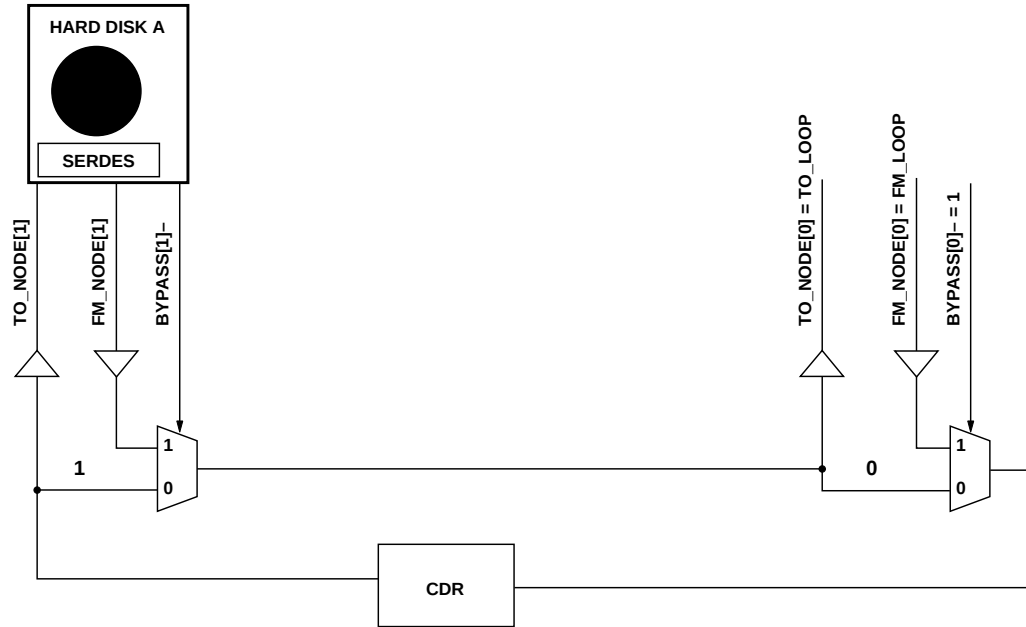
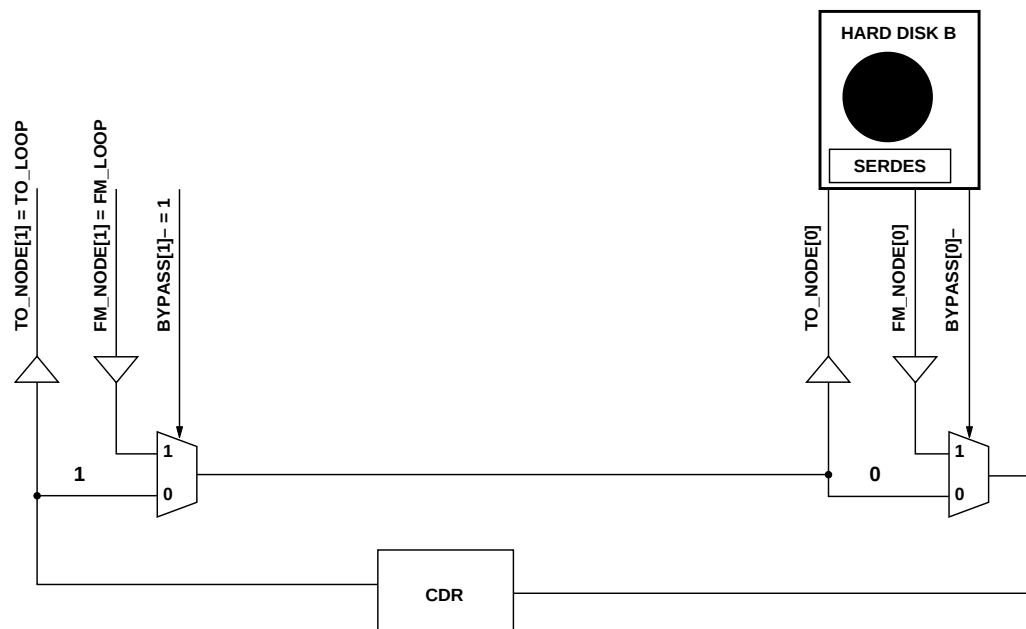

Figure 4: Connection Diagram. Case of CDR Before Entering the Hard Disk.
Figure 5: Connection Diagram. Case of CDR After Exiting the Hard Disk.
A Port Bypass Circuit is a 2:1 Multiplexer array with two modes of operation: DISK IN LOOP and DISK BYPASSED. In DISK IN LOOP mode, the loop goes into and out of the disk drive. Data go from the HDMP-0421's TO_NODE[n] $\pm$ differential output pins to the Disk Drive Transceiver IC (for example, an HDMP-1536A) Rx $\pm$ differential input pins. Data from the Disk Drive Transceiver IC Tx $\pm$ differential output pins go to the HDMP-0421's FM_NODE[n] $\pm$ differential input pins. Figures 4 and 5 show connection diagrams for disk drive array applications. In DISK BYPASSED mode, the disk drive is either absent or non-functional and the loop bypasses the hard disk. DISK IN LOOP mode is
(Figure 4). To achieve a CDR function after slot A, the BYPASS[1]– pin must be HIGH and hard disk slot A must be connected to PBC cell 0 (Figure 5). Table 2 shows both possible connections. In both cases, a Signal Detect (SD) pin
Table 2. Pin Connection Diagram to Achieve Desired CDR Location (see Figures 4 and 5)